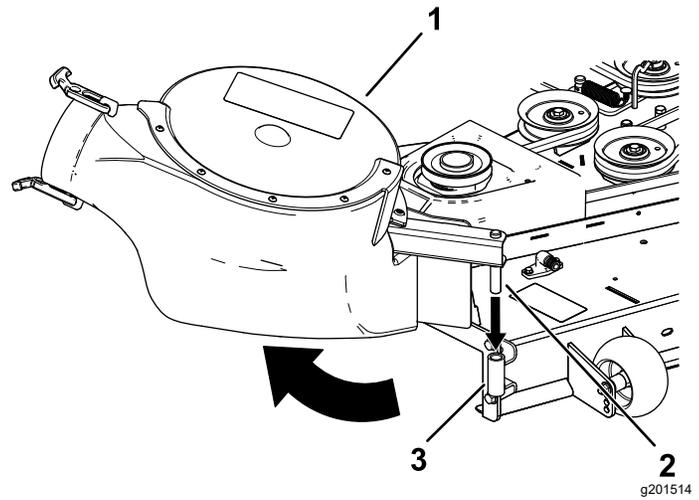

Figure 13
2. Insert the blower pivot pin into the blower support and rotate the blower assembly inward toward the machine (Figure 13).